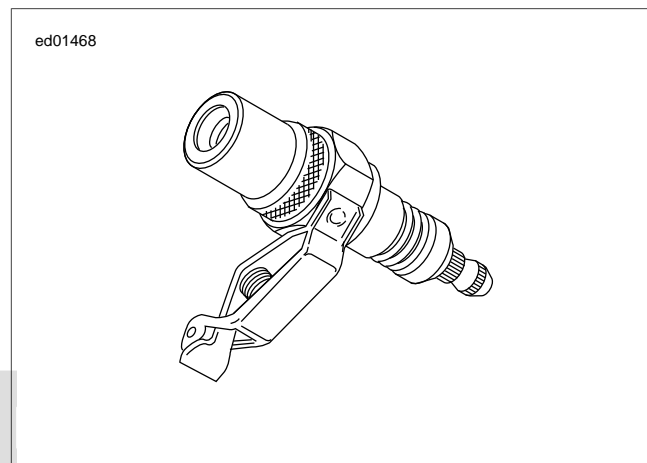

Figure 2-29. Spark Tester
- b. See Figure 2-29. Attach cable to SPARK TESTER (Part No. HD-26792). Clip tester to cylinder head bolt.